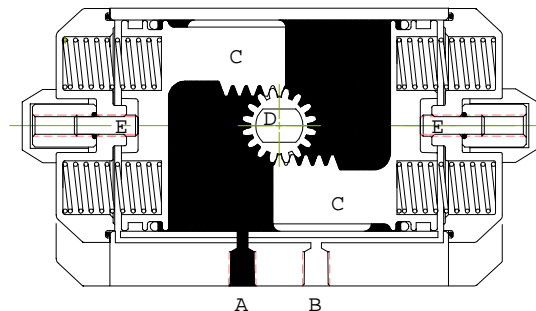

Figure 3 - S91 Single Acting
Figure 3 shows a S91 Single Acting Actuator completing the Air Stroke Counterclockwise to the Open Position. When pressure is applied to the Left Input Port (A), the actuator will exhaust through the Right Input Port (B). This Pistons will move away from each other, compressing the spring cartridges, and the Output Shaft (D) will rotate in a counterclockwise direction when viewed from the top. The Pistons will move until they reach the adjustable Travel Stops (E). Adjustment to the Travel Stops will precisely regulate the rotation of the Output Shaft.